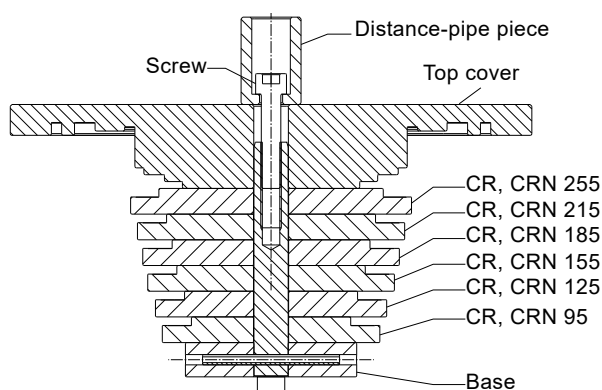

Fig. 29 Service tool L for installing the neck ring
1. Use service tool L and select the disc size for the pump which is being serviced and remove the remaining discs from the service tool. See fig. 29.